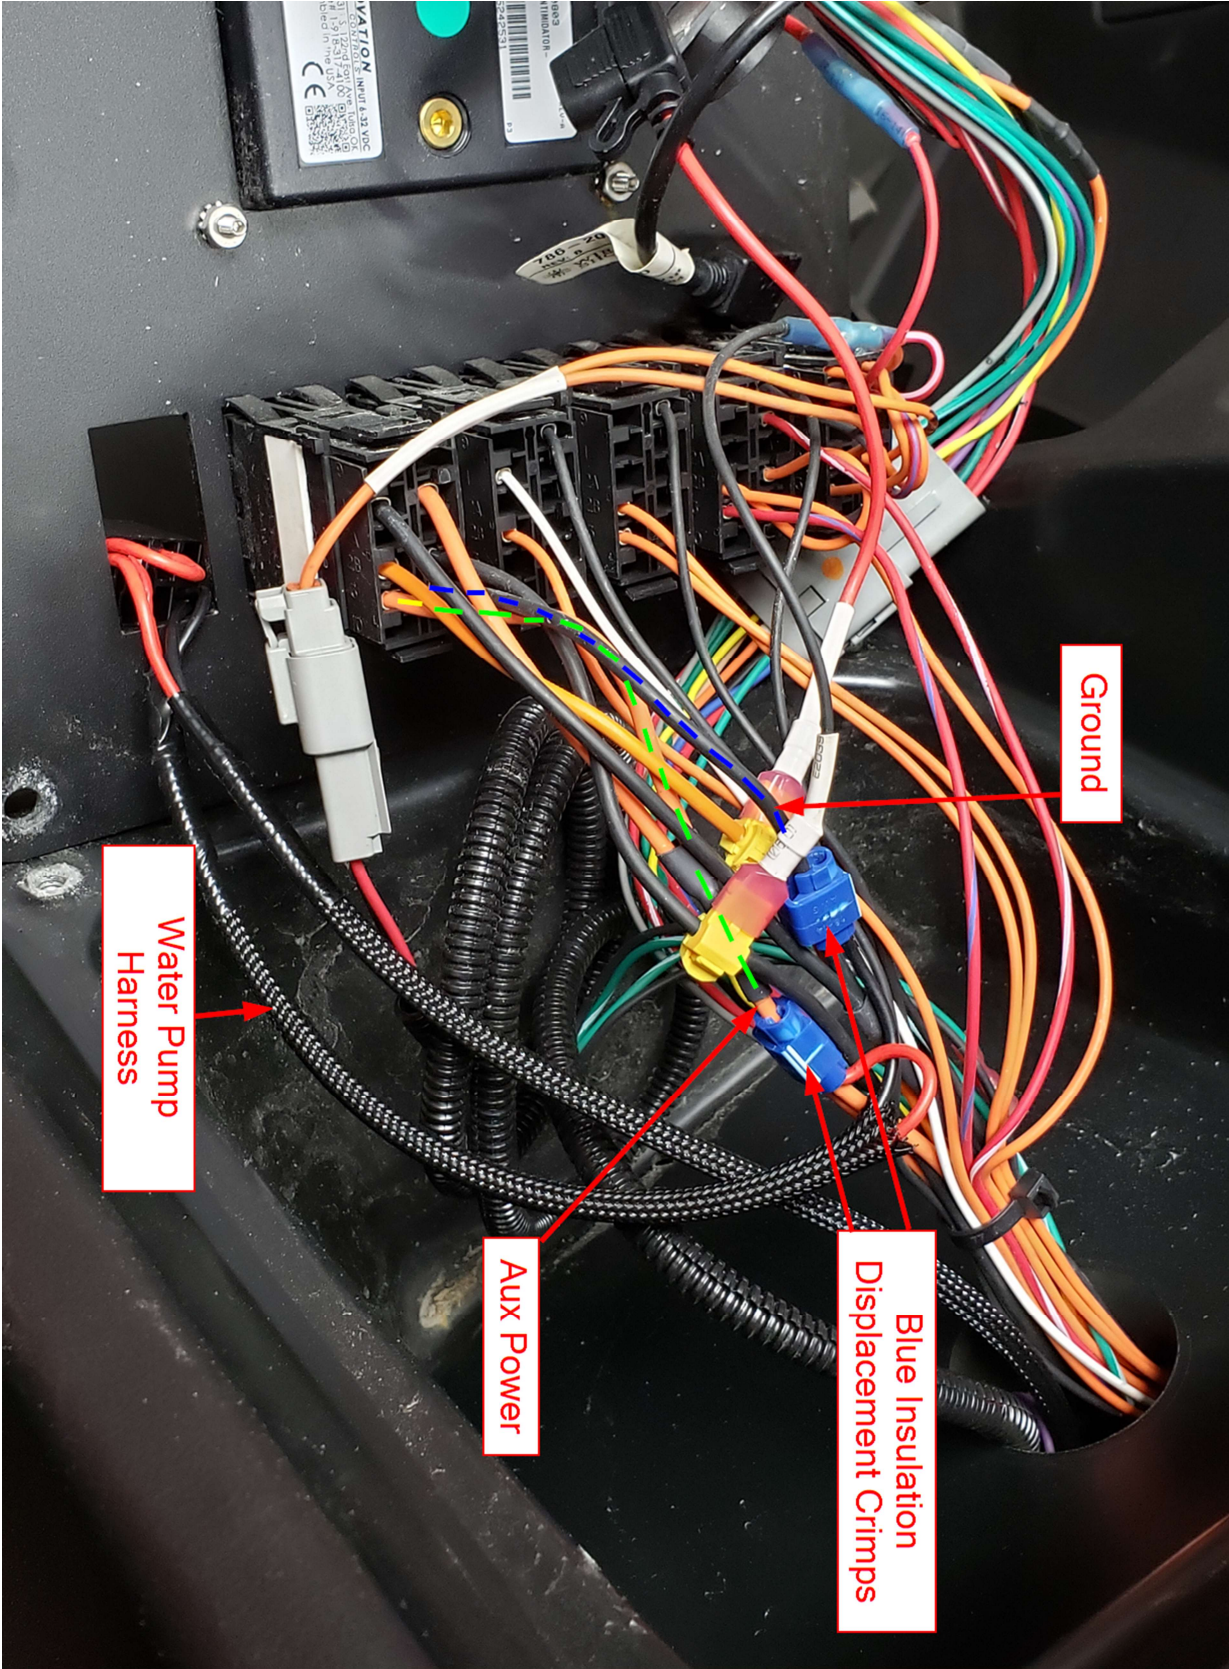

Figure 34
- h. Use the Blue Insulation Displacement Crimps to connect the Harnesses Red wire to one of the Auxiliary power wires in the switch compartment and connect the Harnesses Black wire to one of the ground wires. Refer to Figure 34. Insert the Dash Switch into an open slot and insert the connector plug to the back of the Dash Switch.